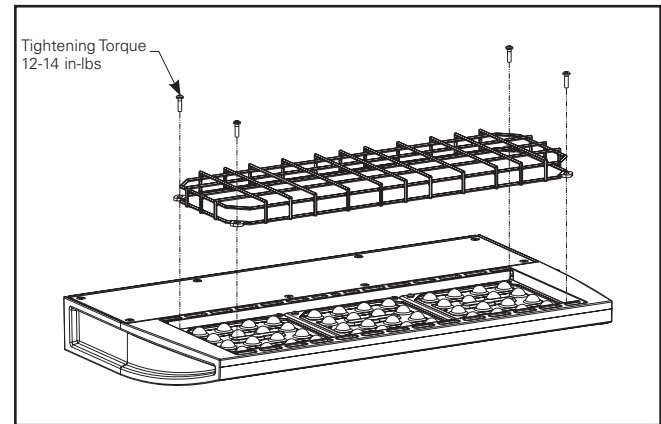

Figure 2.
1. Loosen and remove the existing (4) 8-32 torx screws on the face of the fixture (Figure 2).
3. Use (4) 8-32 Phillips screws provided to tighten the wireguard in place onto each LED square.